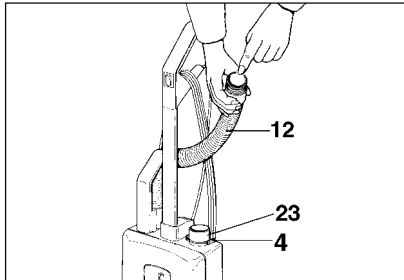

Figure 13
Clogs in the Attachment Hose - Figure 13
Remove attachment hose (12) from vacuum cleaner (see figure 13) and remove front cover (7). Clean out connecting tube (23) and/or entrance to bag (28).